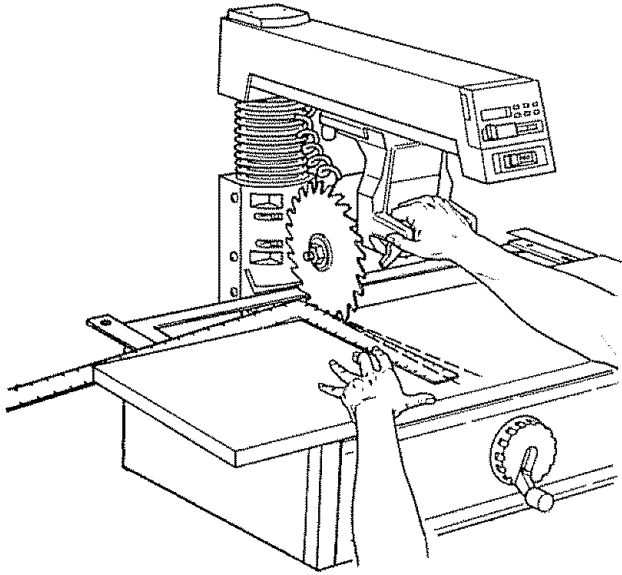

Fig. 70
7. Lay a framing square on the *front table* with the long edge along the back of the *table* and the short edge alongside the *blade*. (Figure 70)
8. Move the framing square toward the *blade* until a tooth of the *blade* just touches the edge of the square. (Figure 70)
If the marked tooth moves away from the square or tries to “walk” on top of it, go to step 12 (Figure 70)